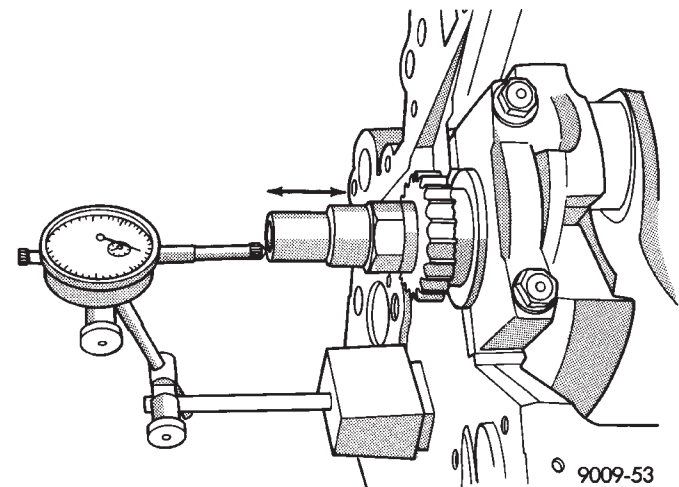

Fig. 4 Checking Crankshaft End Play
- (1) Mount a dial indicator to front of engine, locating probe on nose of crankshaft (Fig. 4).